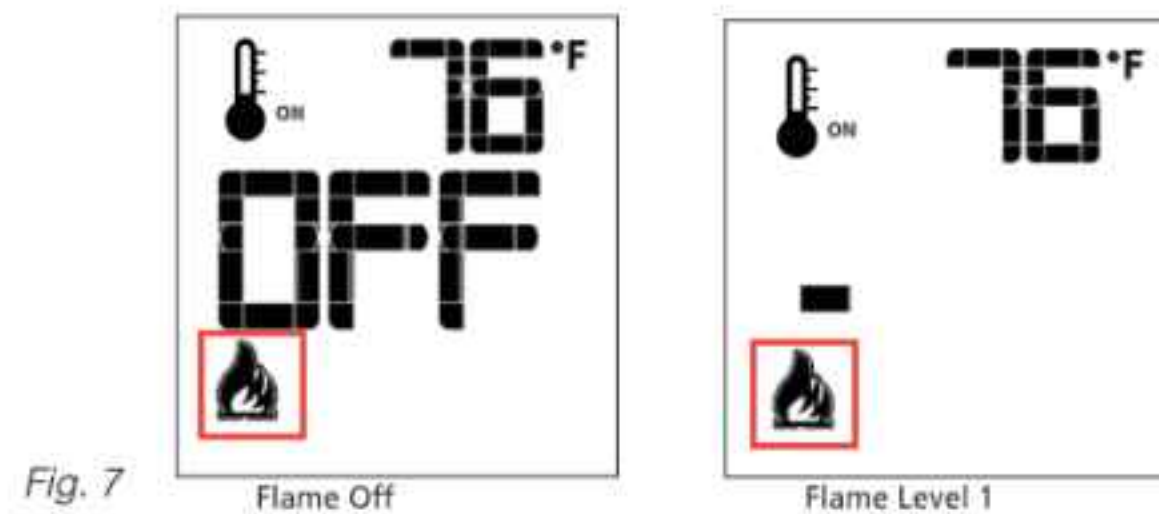

Fig. 7
The proflame has six (6) flame levels. With the system on, and the flame level at the maximum in the appliance, pressing the Down Arrow Key once will reduce the flame height by one step until the flame is turned off. The Up Arrow Key will increase the flame height each time it is pressed. If the Up Arrow Key is pressed while the system is on but the flame is off, the flame will come on in the high position. ( Fig. 7 & 8 ) A single "beep" will confirm reception of the command.